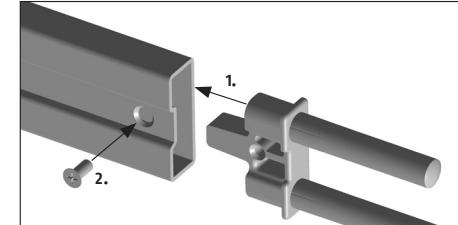

Fig. 25
- Insert the door bar end piece with round bolts and tighten with the screw (Fig. 25).